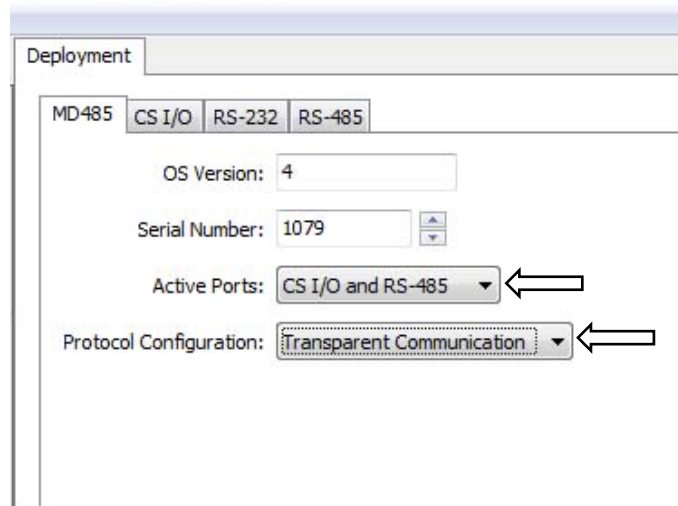

FIGURE C-2. MD485 Deployment tab
- Click the **MD485** tab. Select *CS I/O* and *RS-485* in the **Active Ports** box. Select *Transparent Communication* in the **Protocol Configuration** box (FIGURE C-2).